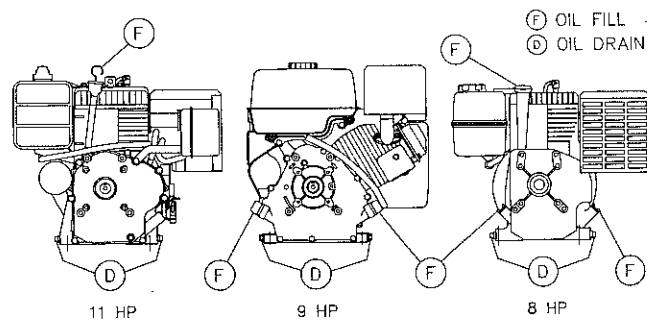

FIGURE 2
1. Remove oil fill plug (see Figure 2) and, with the vehicle on level ground, fill the crank case until the oil reaches the threads in the fill hole neck, approximately 1-1/4 pints. Use a good grade of oil as recommended in the Briggs & Stratton Engine Operating and Maintenance Instructions. Replace and securely tighten fill plug.
1. Remove oil dipstick (See Fig. 2) and with the vehicle setting on level ground, fill the crankcase to the FULL mark on the dipstick, approximately 2.5 pints. Use a good grade of oil as recommended in the Briggs & Stratton Engine Operating and Maintenance Instructions.
1. Remove oil dipstick (See Fig. 2) and with the vehicle setting on level ground, fill the crankcase to the FULL mark on the dipstick, approximately 3 pints. Use a good grade of oil as recommended in the Briggs & Stratton Engine Operating and Maintenance Instructions.